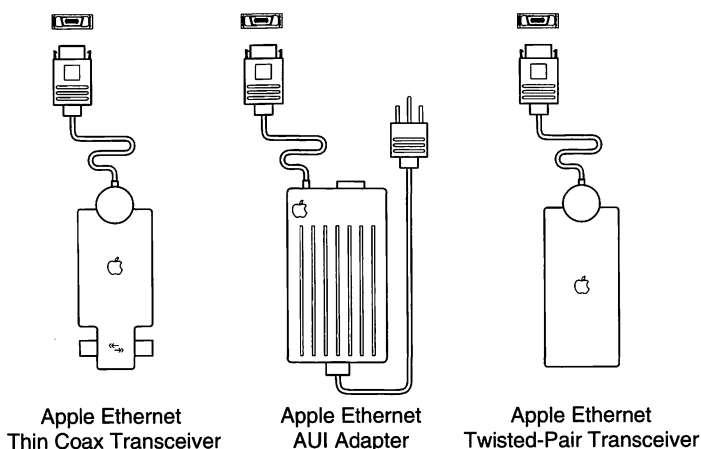

Figure 3. Ethernet Connection
1. Obtain an Ethernet transceiver and an Ethernet cable appropriate for the network's media type—thin, thick (AUI), or twisted pair (see Figure 3).